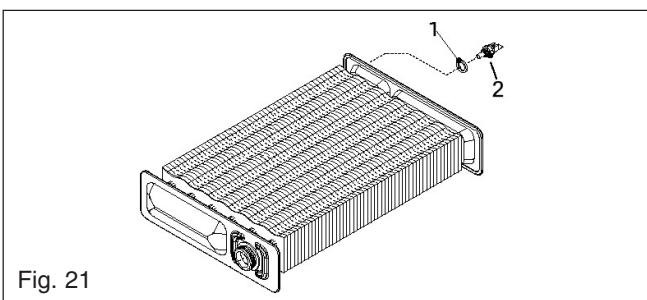

Fig. 21
**6.10 PRIMARY THERMISTOR fig. 21**